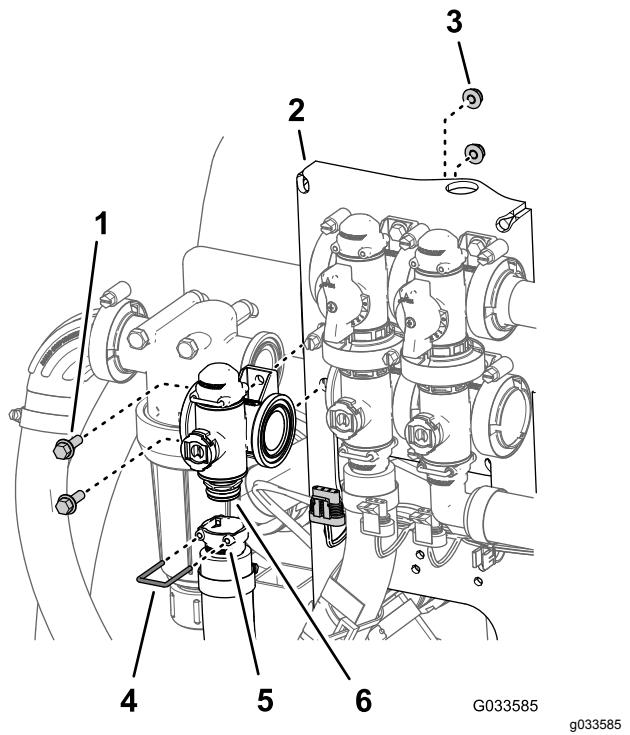

Figure 99
2. Remove the retainer that secure the outlet fitting to the manifold coupling for the rate control valve (Figure 99).
3. Remove the 2 flanged-head bolts (1/4 x 3/4 inch) and 2 flanged locknuts (1/4 inch) that secure the rate control valve to the valve mount and remove the valve manifold from the machine (Figure 99).